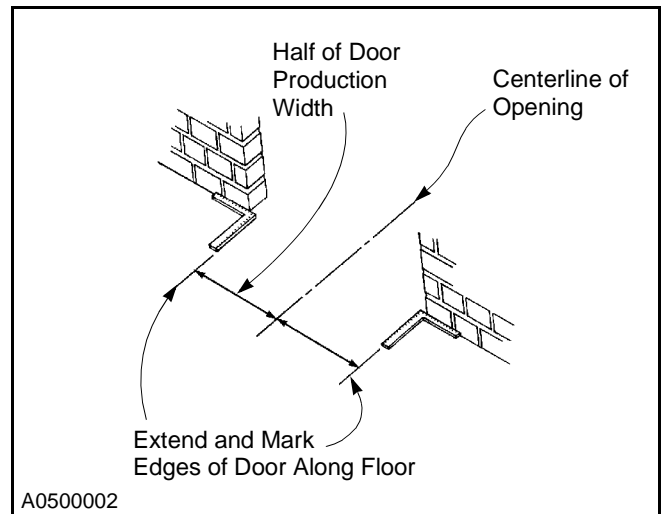

Figure 7
2. Using the centerline as a reference point, lay out and mark half of the door's production width along the floor. (See Figure 7.)